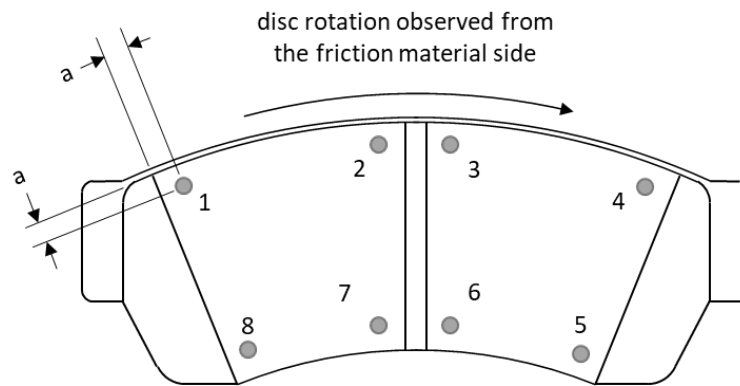

Figure 1 - Measurement positions for brake pad assemblies
- 4.1.4 Locate the measurement positions (dimension “a”) approximately 5 mm from any edge of the friction material surface (outer or inner diameters, chamfers, or slots). See Figure 1.